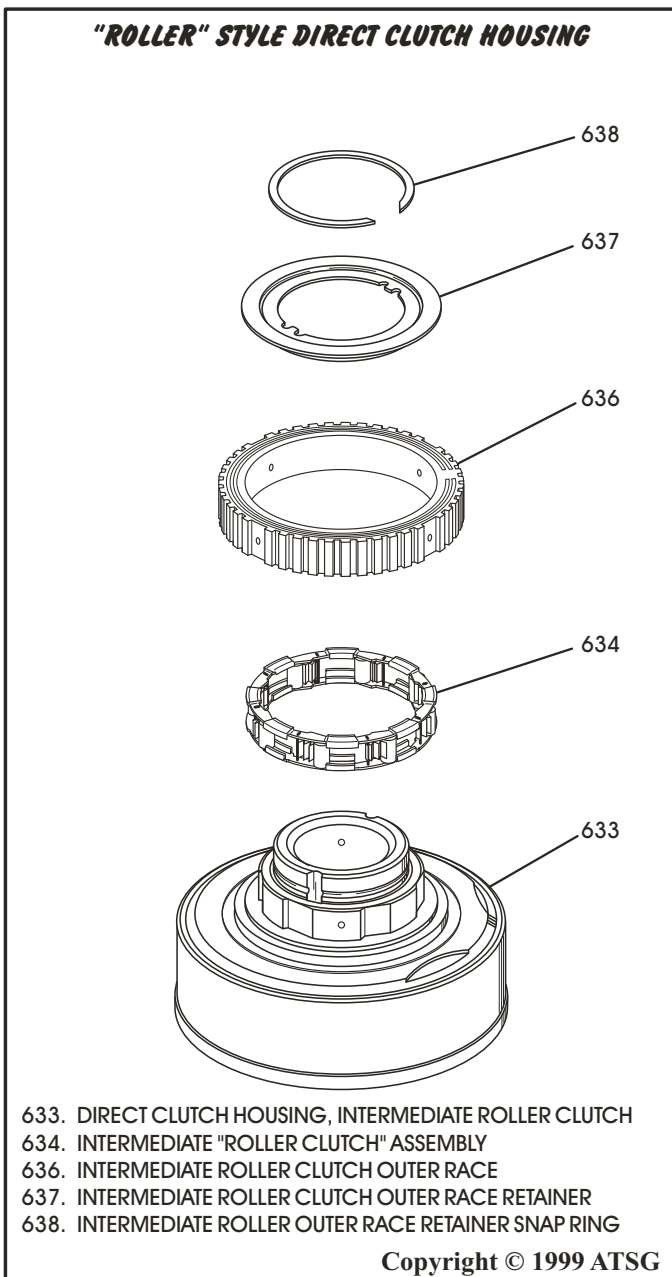

Figure 82
20. Turn the direct clutch housing over as shown in Figures 82 and 83. There are 2 different styles of direct clutch housings, one for the "Sprag" style freewheel, and one for the "Roller Clutch" as shown below.
21. Use Figure 82 to assemble the "Roller Clutch" style freewheel and use Figure 83 to assemble "Sprag" style intermediate freewheel.